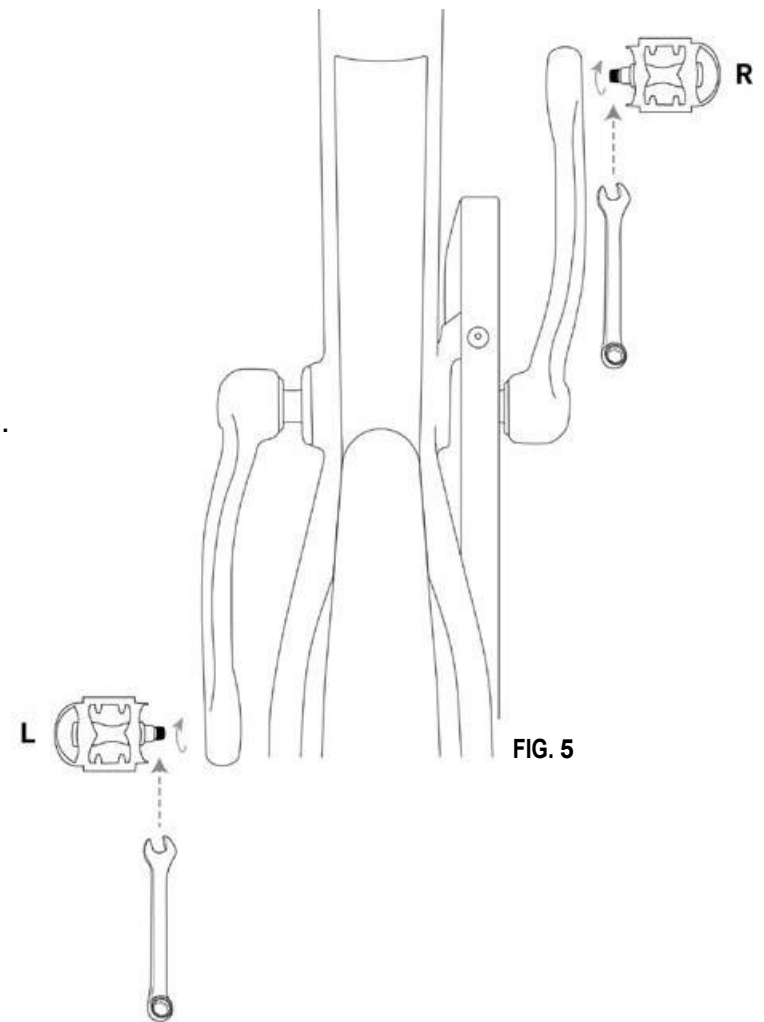

FIG. 5
**Right pedal:** it is identified by the letter “R” marked on its pin. To assemble the pedal, screw it in by turning the pin clockwise (Fig. 5).
**Left pedal:** it is identified by the letter “L” marked on its pin. To assemble the pedal, screw it in by turning the pin counterclockwise (Fig. 5).